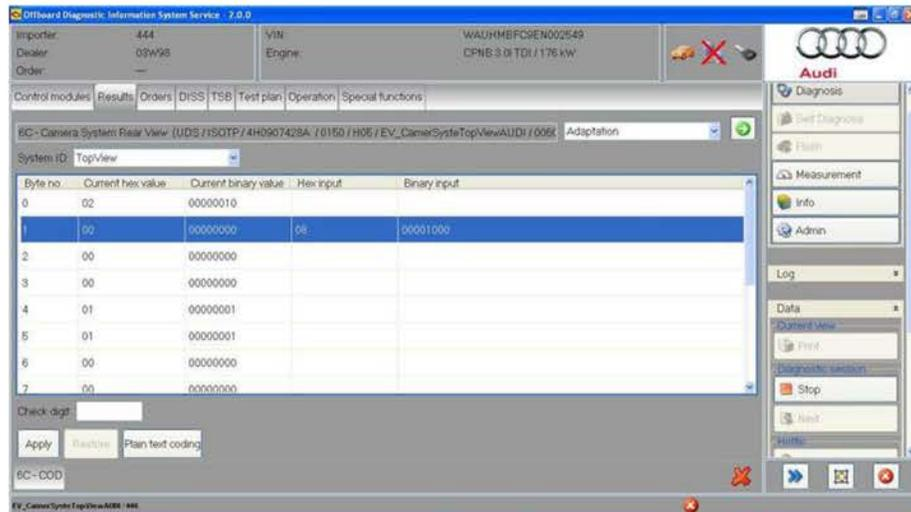

Figure 7. New HEX value entered. Click Apply button.
5. Choose *Apply* again (Figure 7).